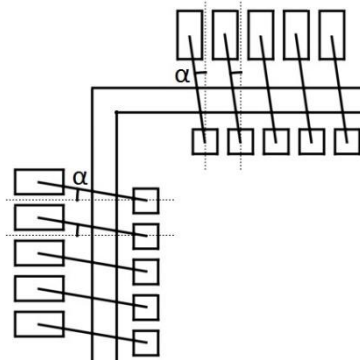

Fig. 4: Angle between the wire and the normal through the middle of the bondpad
- ! 10. The angle between the bond wire and the normal through the middle of the bondpad should be maximum 45° (figure 4).